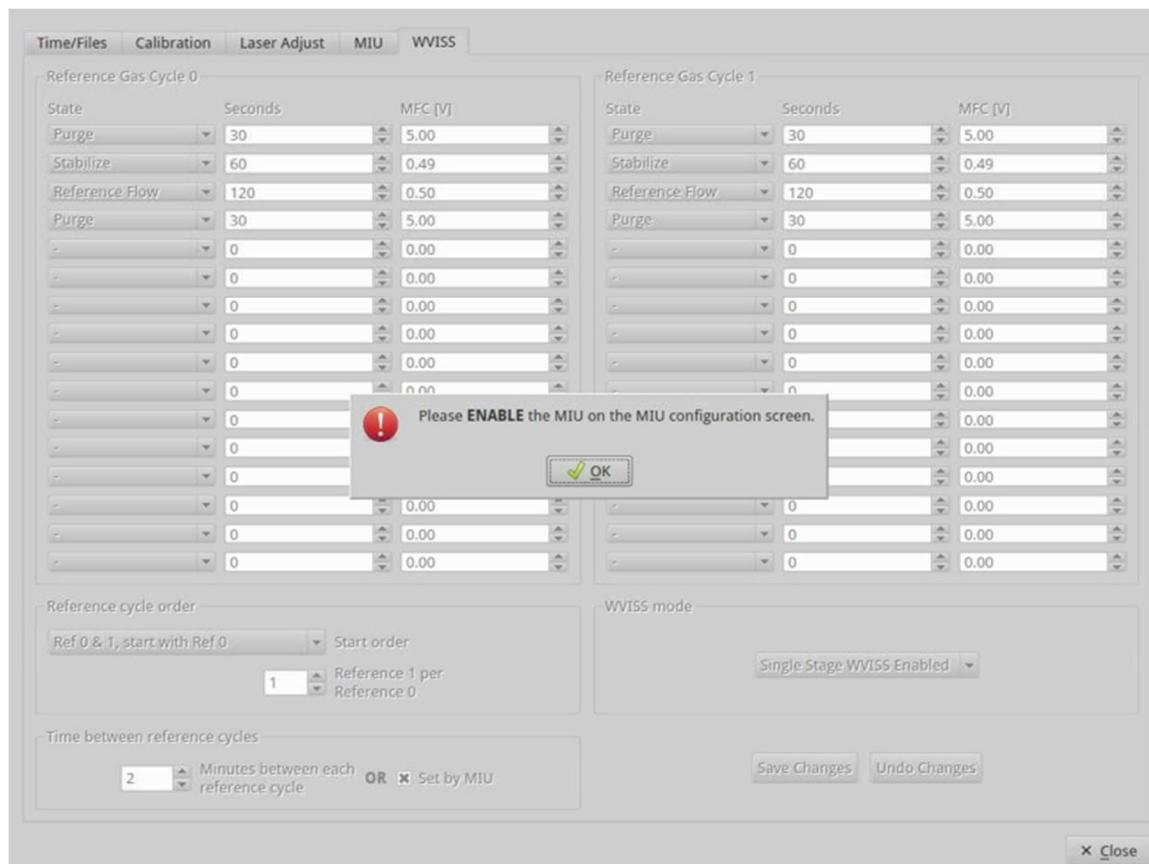

Figure 110: Enable the MIU message screen
- i. If the MIU tab has not been enabled, the WVISS screen becomes grayed out, and a Message Box will appear, informing you to Enable the MIU. (Figure 110)
- d. Select Save Changes. (Figure 110)
- e. Click Close to begin the configured run. (Figure 110)